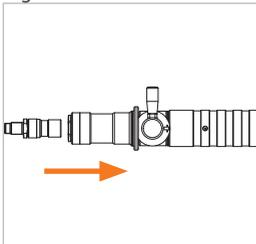

Figure 6
- ▶ Lift the hose on the fueling nozzle slightly and pull the fueling nozzle straight off the receptacle (Figure 6).